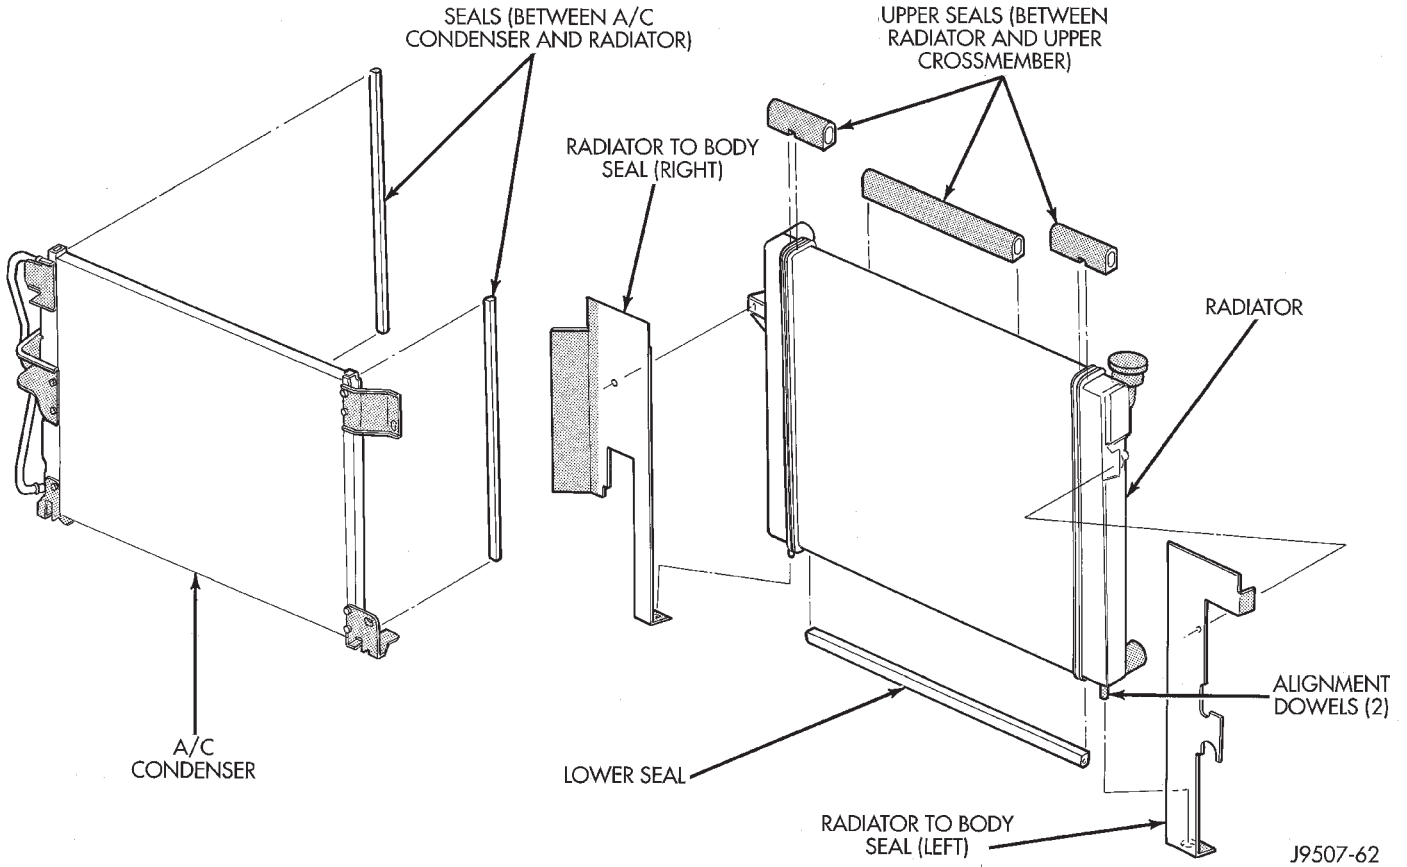
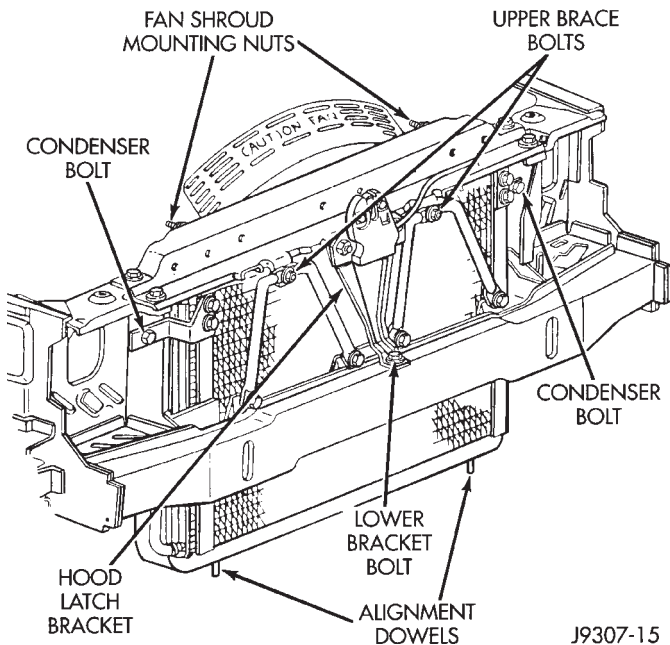
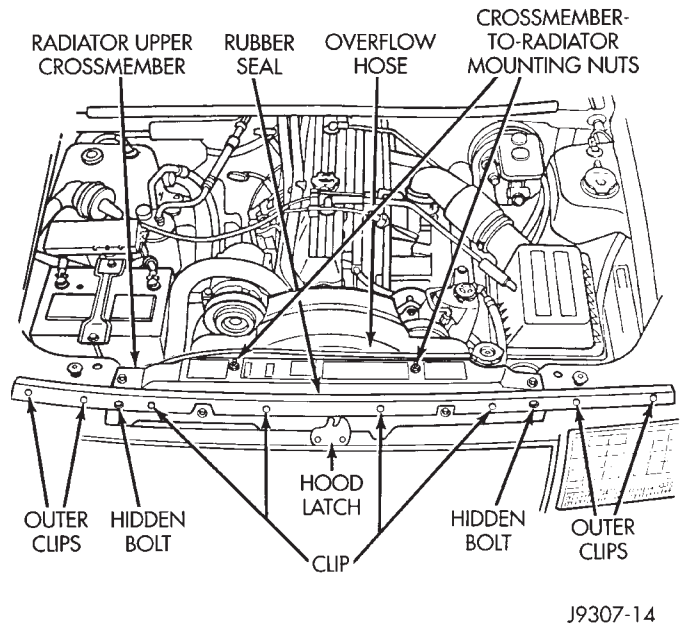
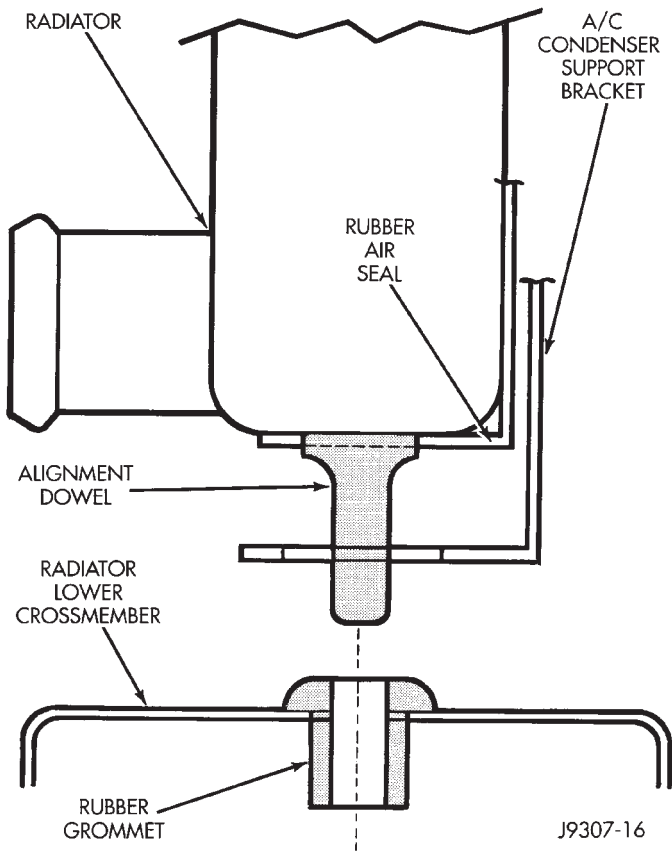

Fig. 45 Air Seals—Typical
Fig. 48 Radiator and A/C Condenser Mounting
Fig. 49 Radiator Upper Crossmember—Typical
Fig. 50 Radiator Alignment Dowels
CAUTION: When removing the radiator or A/C condenser for any reason, note the location of all radiator-to-body and radiator-to-A/C condenser rubber air seals (Fig. 45). These are used at the top, bottom and sides of the radiator and A/C condenser. To prevent overheating, these seals must be installed to their original positions.
(8) Remove the two fan shroud-to-upper radiator crossmember mounting nuts (Fig. 48).
(9) Remove the fan assembly and fan shroud (as one unit) from vehicle.
(10) Special quick-connect fittings are used to join the transmission cooling lines to the radiator. Removal procedures are different between the 4.0L and 5.2/5.9L engines. Disconnect the cooling lines from the radiator. Refer to Group 21 for transmission cooling line removal and installation.
(11) The radiator upper crossmember (Fig. 49) can be adjusted left or right through the use of slotted holes. Before removal, mark the original position of the crossmember.
(12) Eight clips are used to retain a rubber seal (Fig. 49) to the body and upper radiator crossmember. Gently pry up the outboard clips (two per side) until rubber seal can be removed. Do not remove the clips entirely. Fold back the seal on both sides for access to (the hidden) grille opening reinforcement mounting bolts (Fig. 49). Remove these two bolts.
(13) Remove the grill. Refer to group 23, Body.
(14) Remove the upper brace bolt from each of the two radiator braces (Fig. 48).
(15) Remove the two crossmember-to-radiator mounting nuts (Fig. 49).
(16) Working through grill opening, remove the lower bracket bolt securing lower part of hood latch support bracket to lower frame crossmember (Fig. 48).
(17) Remove the remaining four bolts securing the radiator upper crossmember to the body. Do not remove the hood latch or hood latch cable from the
(18) Equipped with air conditioning: Remove the two A/C condenser-to-radiator mounting bolts (Fig. 48). These two bolts are also used to retain the side mounted rubber air seals (Fig. 45). These seals are compressed between the A/C condenser and the radiator. The lower part of the air seals are compressed between the radiator and the A/C condenser mounting brackets (Fig. 50).
(19) Not equipped with air conditioning: Remove the two bolts retaining the side mounted rubber air seals (Fig. 45) to the radiator. The lower part of the air seals are compressed between the radiator and the radiator lower crossmember.
CAUTION: Note the location of all rubber air seals (Fig. 45). To prevent overheating, they must be installed back to their original positions.
(20) Disconnect the coolant reserve/overflow tank hose (Fig. 49) at radiator.
(22) 4.0L Engine Only: Remove the lower radiator hose at the water pump end.
(23) To gain access to lower radiator hose clamp at radiator, gently lift the radiator a slight amount. Remove hose clamp and hose.
(24) The lower part of radiator is equipped with two alignment dowel pins (Fig. 48) (Fig. 50). They are located on the bottom of radiator tank and fit
CAUTION: Before installing the radiator or A/C condenser, be sure the radiator-to-body and radiator-to-A/C condenser rubber air seals (Fig. 45) are properly fastened to their original positions. These are used at the top, bottom and sides of the radiator and A/C condenser. To prevent overheating, these seals must be installed to their original positions.
(1) Equipped with air conditioning: Gently lower the radiator into the vehicle. Guide the two radiator alignment dowels through the holes in the rubber air seals first and then through the A/C support brackets (Fig. 50). Continue to guide the alignment dowels into the rubber grommets located in lower radiator crossmember (Fig. 50). The holes in the L-shaped brackets (located on bottom of A/C condenser) must be positioned between bottom of rubber air seals and top of rubber grommets.
(2) Not equipped with air conditioning: Gently lower the radiator into the vehicle. Guide the two radiator alignment dowels through the holes in the rubber air seals. Continue to guide the alignment dowels into the rubber grommets located in lower radiator crossmember.
(3) Connect the lower radiator hose and hose clamp to radiator.
(4) 4.0L Engine: Connect the lower radiator hose at the water pump.
(5) Connect the upper radiator hose at the radiator.
(6) Equipped with air conditioning: Install the two A/C condenser- to-radiator mounting bolts (Fig. 48). These two bolts are also used to retain the rubber air seal (Fig. 45) to the sides of radiator.
(7) Not equipped with A/C: Install the two bolts retaining the rubber air seal (Fig. 45) to sides of radiator.
(8) Install coolant reserve/overflow tank hose at radiator.
(9) If radiator-to-upper crossmember rubber isolators were removed from radiator, install them. Tighten mounting nuts to 3 N·m (24-36 in. lbs.) torque. Position upper radiator crossmember to radiator.
(10) Working through grill opening, install and tighten the hood latch support bracket-to-lower frame crossmember bolt (Fig. 48).
(11) Install the four bolts securing the radiator upper crossmember to the body (Fig. 49).